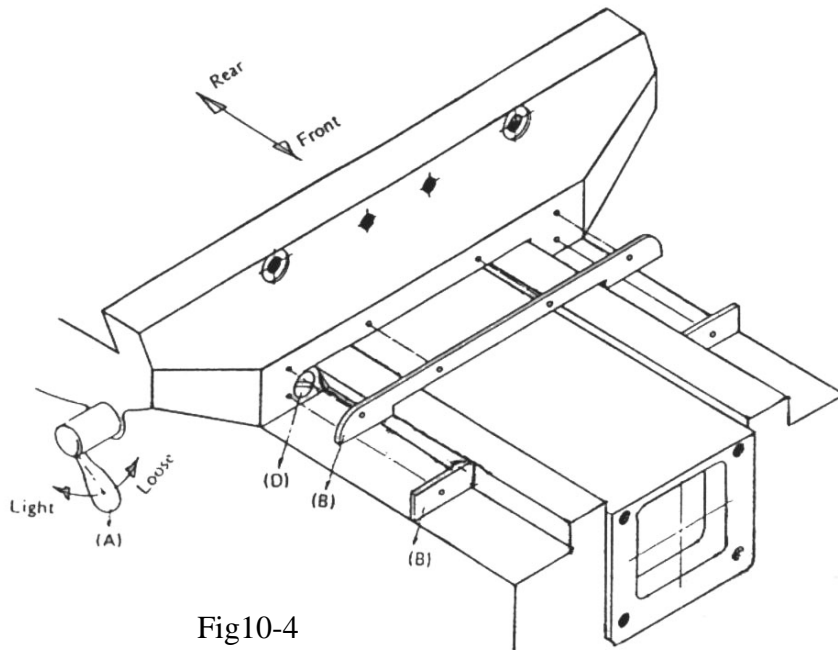

Fig10-4
10.2.2 Adjustment of saddle gib (vide Fig.10-4):